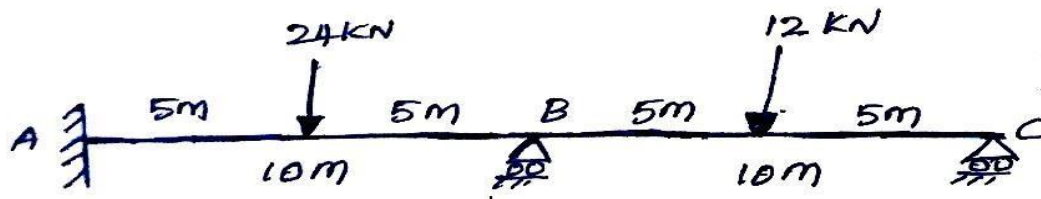

Figure 3.5
5. Analysis a continuous beam as shown in Figure 3.5 if downward settlement B & C is $kN\cdot m$ units are $200/EI$ and $100/EI$ respectively. Using Stiffness matrix method